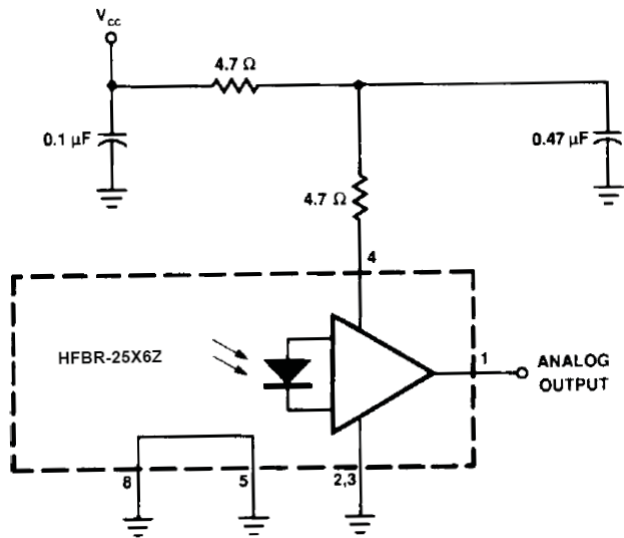

Figure 1. Recommended power supply filter circuit.
- The signal output is an emitter follower, which does not reject noise in the power supply. The power supply must be filtered as in Figure 1.